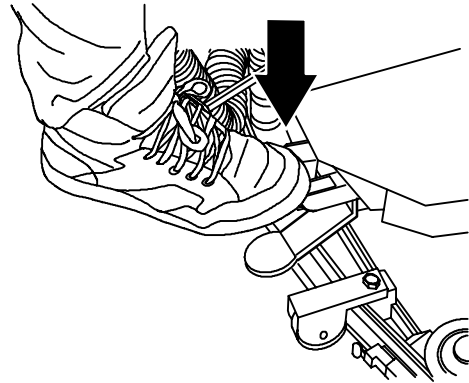

FIG. 26
- Lower the scrub brush by stepping down on the scrub head release pedal (Figure 26).